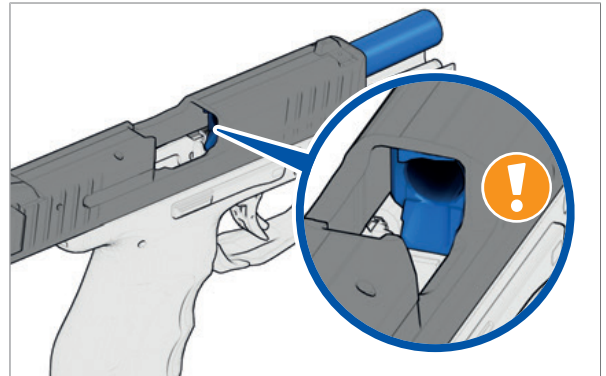

Fig. 14: Look into the chamber
3. Look into the chamber (*Fig. 14*). There must not be a cartridge in the chamber. If there is a cartridge in the chamber, then a fault is present. ▶ Faults: Causes and remedies.